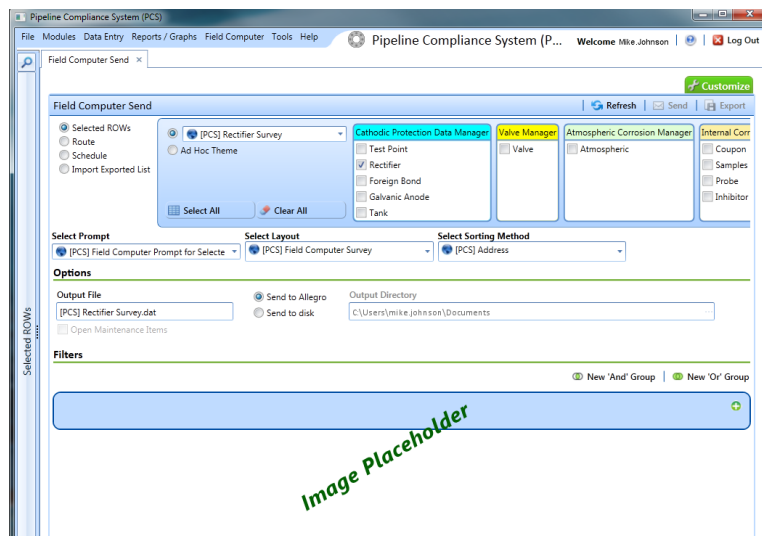

Figure 13-2. Field Computer Send
- 3 Click **Field Computer** > **Send** to open the *Field Computer Send* window (Figure 13-2).